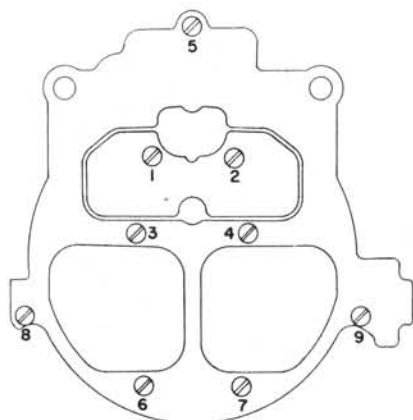

FIGURE 45
2. Install (9) air horn to float bowl attaching screws. (2) long screws go through secondary side of air horn at rear and (2) countersunk screws inside primary bores next to venturi. Install air valve lockout guard, if used, under intermediate length screw (#4 in Figure 45) and secure with self-tapping screw. If used, install air horn baffle (secondary side) beneath #3 and #4 air horn screws. Tighten all screws evenly and securely – in sequence as shown in Figure 45.